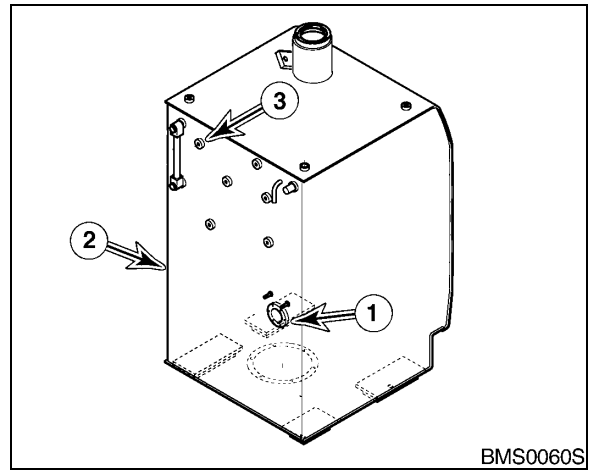

Figure 13
6. Connect the wires as tagged to fuel sensor (1, Figure 13) on side of fuel tank (2).
7. If equipped, connect components to the fuel filter pump port (3, Figure 13) on the side of fuel tank (2).